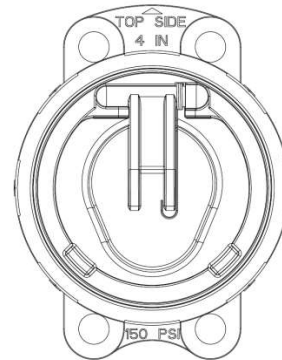

Fig. 2B: Disc, spring, and end cap inside body
- 3.2.2.6 Re-install disc into body. NOTE: Spring will engage a spring retaining groove in the shaft pocket of the body as disc is installed. Be certain to insert disc shaft fully into body. (See Fig. 2B.)